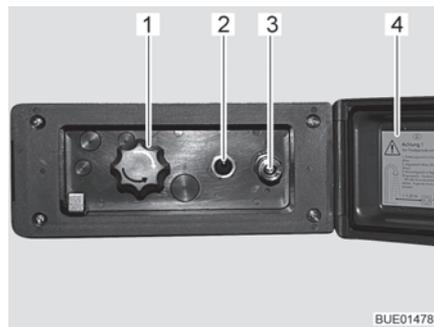

Fig. 127 External shower connection point
- Unlock and open the cover (Fig. 127,4).
- Attach hose of the external shower to the quick closure (Fig. 127,3).
- Switch on the water pump using the switch (Fig. 127,2).
- Adjust the water temperature with the rotary knob (Fig. 127,1) as desired.
- Switch off the water pump using the switch (Fig. 127,2).
- Close the cover (Fig. 127,4) and lock with key.
- Turn knob (Fig. 127,1) to the centre position.